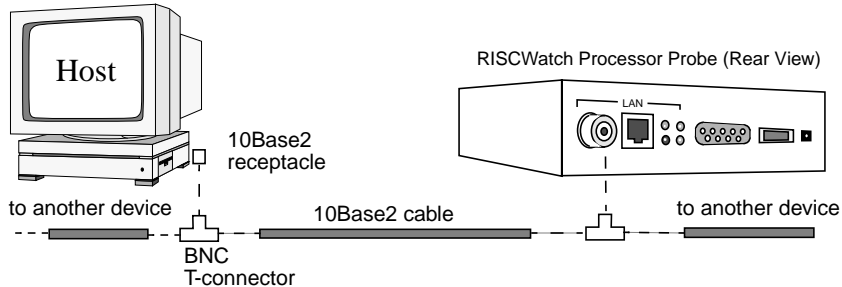

Figure 4-5. 10Base2 LAN Connection
- b. For a 10Base2 connection to a site-wide LAN with multiple devices, the terminators would not be used, as shown in Figure 4-5.